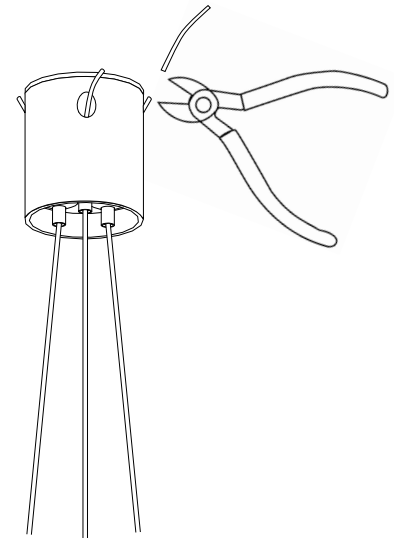
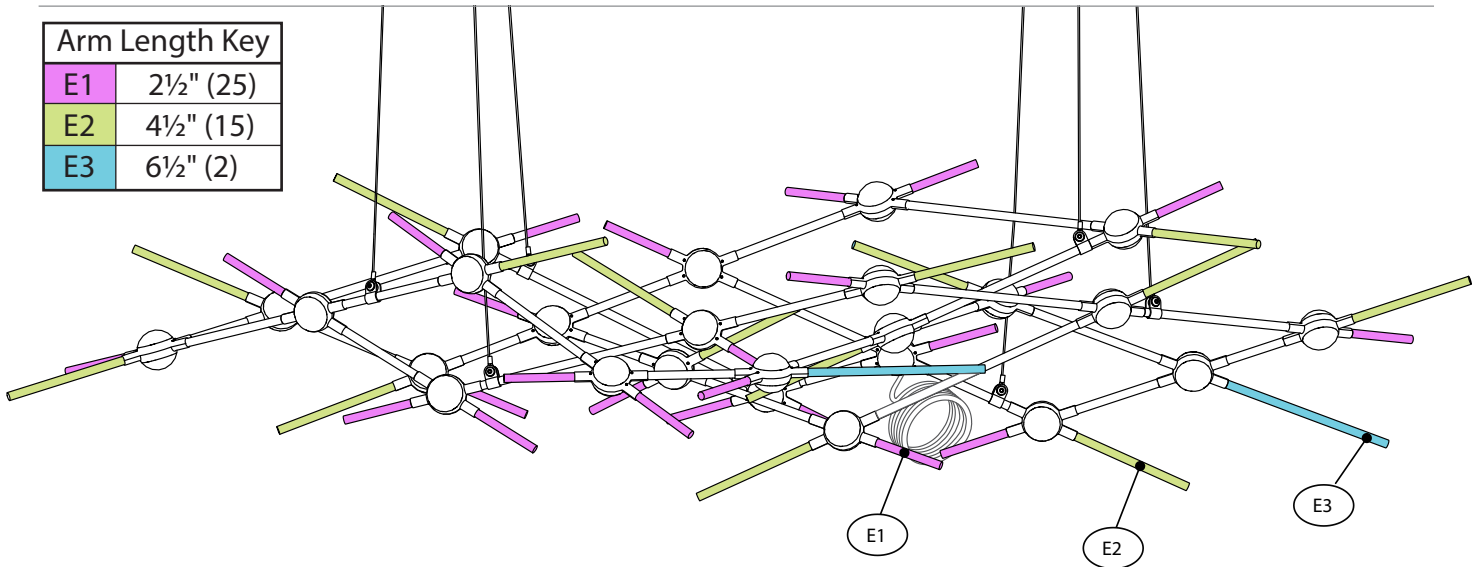

Fig. 2c
Fig. 10a - Front View
4. After Constellation has been assembled and suspended to the desired height, cut and remove extra Hang Clip cable from each of the (6) Hang Clip locations (Fig. 2c). **DO NOT PERFORM THIS STEP UNTIL THE CONFIGURATION HAS BEEN SET IN ITS FINAL POSITION (page 16).**
- Build this section using the End Arms from the Section 6 boxes (3).
- Start by connecting the E3 End Arms (2) as indicated in Figs. 10a/10b.
- Remove the Hub Labels (7) from Hubs 1c, 1e, 1f, 1g, 2c, 2d, and 3a.
- Complete the installation by adjusting the height, as desired, and trimming the Hang Clip Cables (as shown on page 7, Fig. 2c), and installing the Power Feed as shown on page 6.